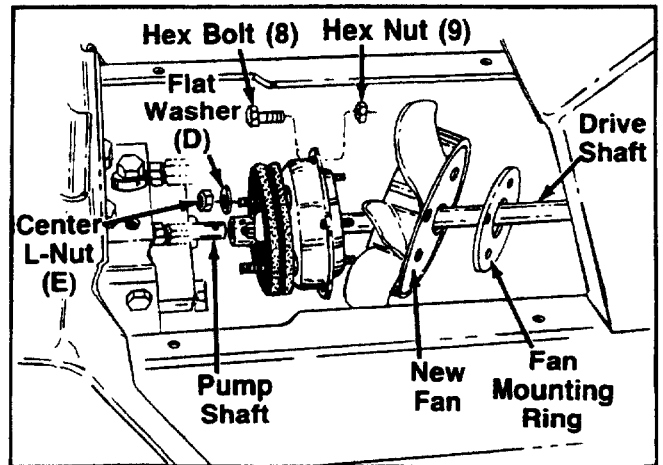
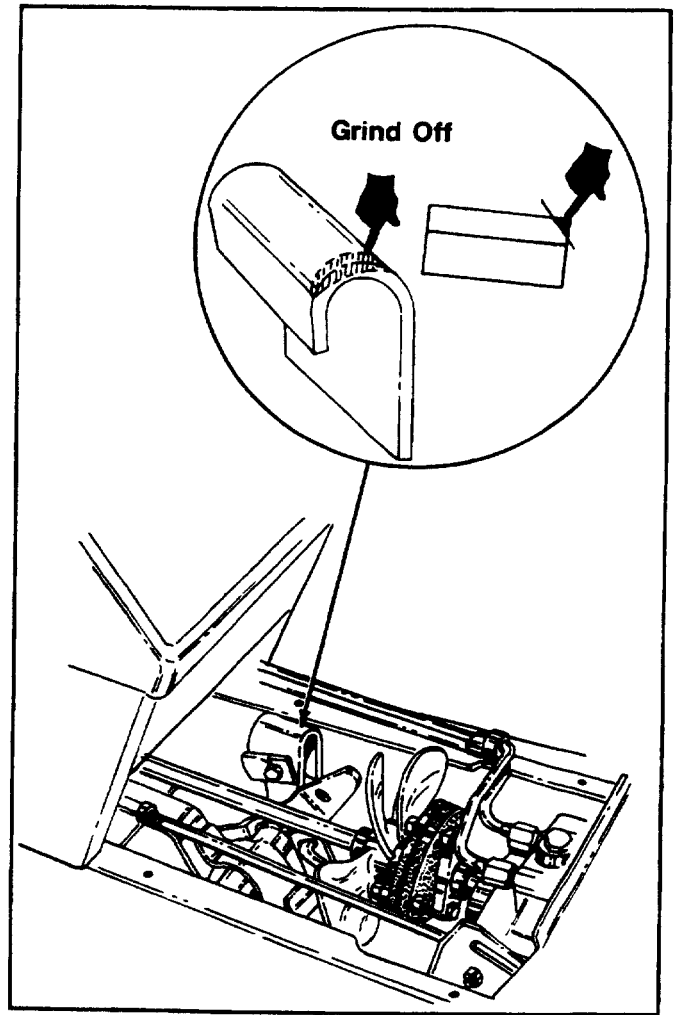

FIGURE 9.
FIGURE 11.
- Remove (2) hex bolts (Ref. 8) and hex nut (Ref. 9) from clutch assembly, shown in figure 9.
- Place front of drive shaft through coupling ①, flexible rubber discs and into alignable coupling as far forward as possible.
- Insert a 1/4-20 bolt into coupling ① and line up hole in drive shaft.
- Install coupling ③ with flexible discs onto drive shaft, and align (2) holes in flexible discs with bolts on rear clutch cover. See figure 9.
- While holding clutch coupling and flexible disc assemblies together, line up with pump shaft and slide onto pump shaft. See figure 9.
25. Slide front clutch cover rearward and align four mounting holes with rear clutch cover and fasten securely with four hex bolts (H) and four hex patch nuts (C).
26. Assemble the two flat washers and lock nuts at rubber disc and rear clutch cover. Tighten securely. See figure 9.
27. Slide the new fan into position and secure with fan mounting ring and four hex patch nuts (C) ($\frac{1}{4}$ -20 thread) provided in kit.
28. Move the lift unit on tractor to the highest position and check fan clearance at lift bracket. Grind off lift bracket if necessary. See figure 11.